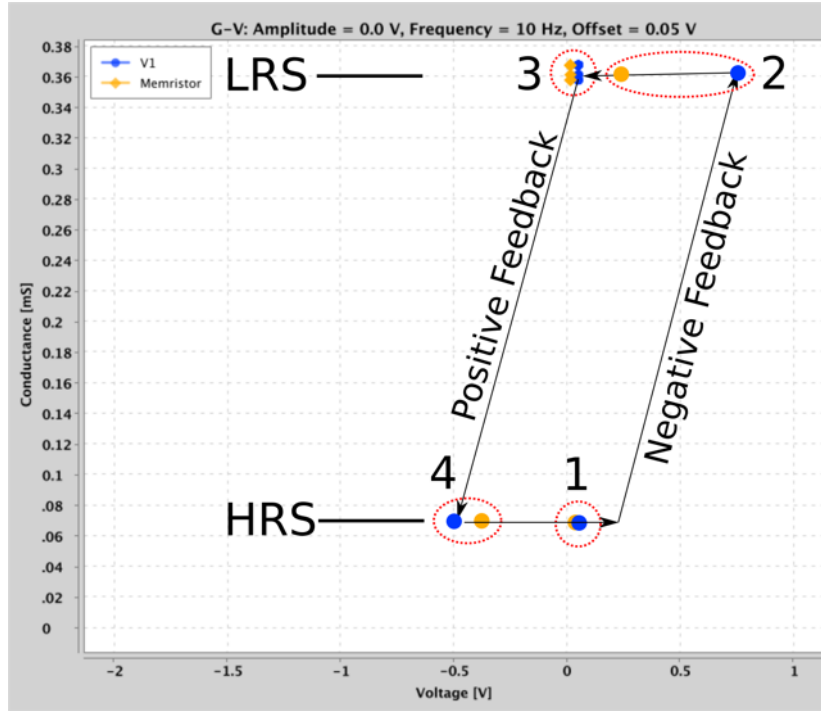
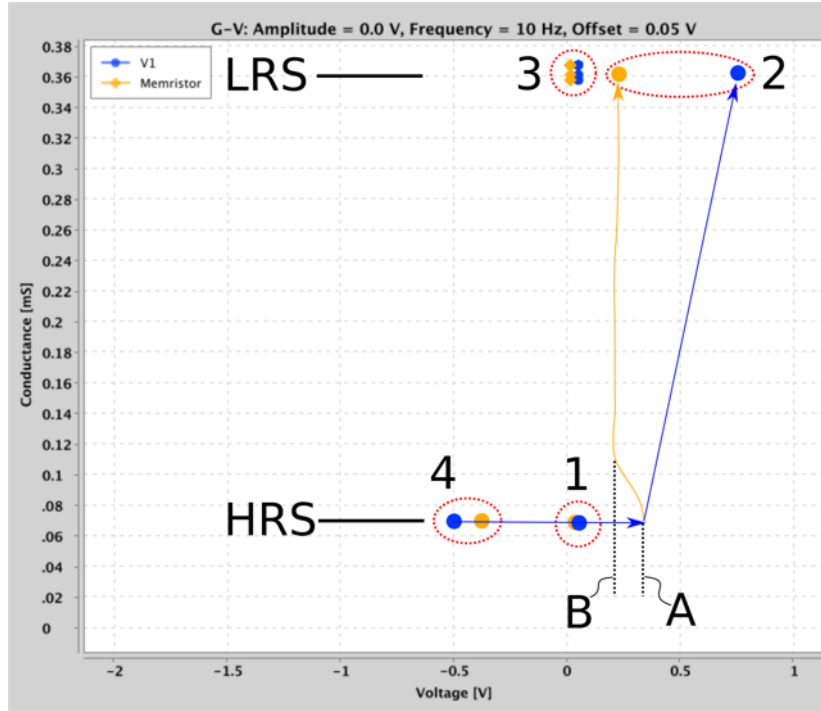

Figure 26: DC Programming Loop
Figure 27: Dynamic (B) vs static thresholds (A) caused by temperature dependence.
In this section we are going to use the "Offset" slider on the Hysteresis experiment to manually control the applied voltage. With your memristor selected, set the offset to something low and positive, like .05V. Set the Amplitude to 0V. Set the frequency to 10Hz. Make sure you have the G-V plot enabled and click 'Start'. Make sure the "Freeze Y-Axis" radio button is not enabled. What you should see is a small cluster of measurements. The Y axis will give you the conductance and the X value will give you the applied voltage, which should be equal to the the offset. The chart is going to update at the rate specified by the frequency. Now, click on the 'Offset' slider to make sure it is selected and then press the 'left arrow' key on your keyboard until the offset is -.5V. Now carefully press the right-arrow key until the voltage is back at .05V. You have now reset the device. Now slowly use the right arrow key to increase the offset voltage and watch how the conductance changes. Do this to a positive voltage of .75V. Once the conductance has increased, check the 'Freeze' box to lock the axis. Now use the left arrow to lower the offset voltage back to .05V. If the measurement data goes out of the plot, un-click and then re-click the 'Freeze' check box to rescale the axis. You have now set the device and completed a programming loop. Let us go through this all in detail in reference to Figure 26.
We start in the HRS, as in Figure 26 (1). As we increase the applied voltage, the measured conductance will remain low until we hit the forward threshold of the device. The conductance of the device will suddenly jump but, provide you do not further increase the voltage, will remain stable. At this point, every increase in voltage will result in an increase in conductance. Due to the forward bias and series resistor, the memristor experiences negative feedback. When the conductance of the memristor increases the voltage drop across it will reduce since the total voltage drop across the memristor and the series resistor must be equal to the applied voltage. The lower voltage drop across the memristor, in turn lowers to below the threshold, and the memristor 'shuts off'. The result is that this simple circuit will convert a increase in applied voltage to increase in conductance—and prevent a run-away increase in the conductance. If you increase the voltage to .5V instead of .75V, for example, you will reach two different 'equilibrium conductances'. In this way you can program the conductance of the memristor. If you would like to program to higher resistance states, use a larger series resistor.
As you go through the DC programming loop of Figure 26 you may notice something peculiar as you go from the HRS (1) to the LRS (2). As the voltage is increased, the memristor does not change until its threshold is hit. At this point the conductance of the memristor 'jumps' up and the voltage drop across the memristor, given by the orange dot, reduces. As the voltage continues to increase the conductance of the memristor goes up but the voltage drop across the memristor likely will not surpass the initial threshold observed in its first conductance jump. Why is this? We believe it is because the thresholds of the device lower as the temperature increases. When we start in the HRS there is very little current and consequently the device stays cool. Just before we reach the 'static threshold' (Figure 27 A), the threshold is higher due to the device being cold. Right after the static threshold is hit, the memristor heats up as current flows increase. Consequently the threshold reduces, which in turn causes the conductance to jump until the voltage drop across the memristor is equal to the 'dynamic threshold' (Figure 27 A). This effect may not be noticeable if the HRS has been reduced due to high forward currents.